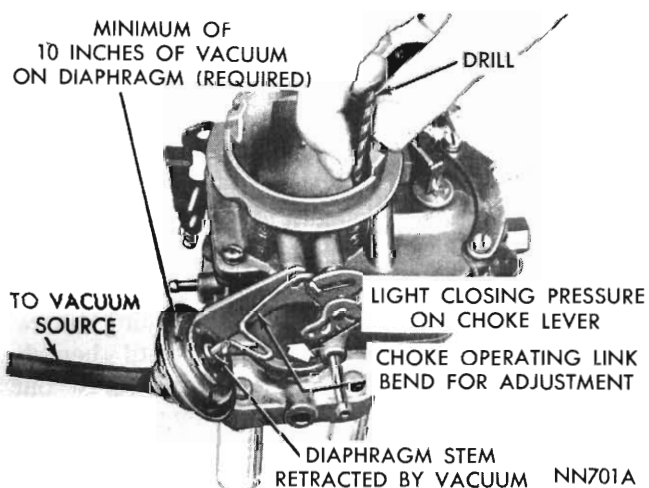

Fig. 13 - Measuring the choke vacuum kick setting
(1) With the engine NOT running, open the throttle valves far enough to allow the choke valve to be moved to the closed position.
(2) Disconnect the vacuum hose from the diaphragm and connect the hose from the vacuum supply as shown in Fig 13. (A minimum of 10 inches of mercury will be required.)
(3) Insert the specified gauge .105" (manual 6 cyl. models), .095" (automatic 6 cyl. models) or .161" for 8 cyl. models, between choke valve and
(7) Install the choke operating link and recheck the choke valve opening, using a gauge or drill. Refer to (Fig. 13).
(8) Reinstall the vacuum hose to the diaphragm and with no vacuum applied to the diaphragm, some clearance should exist between the choke operating